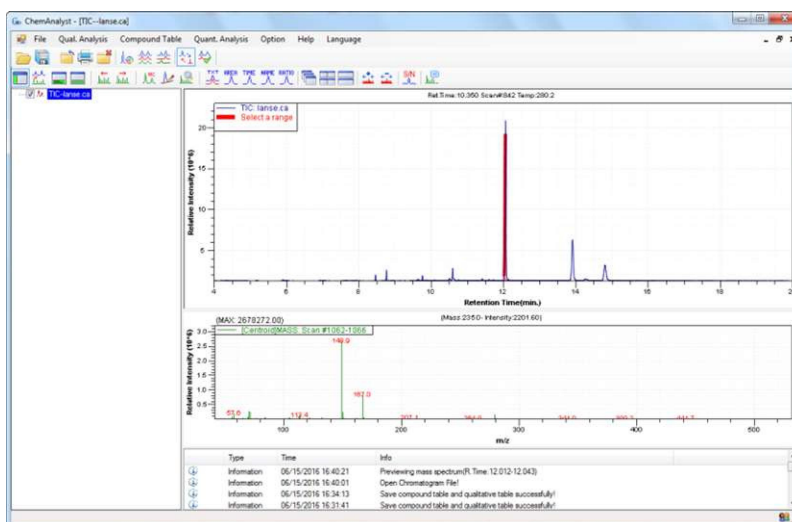

Figure7-21 Preview of Mass Spectrum
- (1)  Comparison of mass chromatograms: if the button is selected, the newly opened mass chromatogram will be added to current TIC diagram directly. If the button is not selected, the newly opened mass chromatogram will be shown separately in a new window.
- (2)  Spectrum list: show or hide the content of spectra list.
- (3)  Centroidal: if selected, all the mass spectrogram will be automatically centered.
- (4)  MC Summary: if there are several MC curves open on the TIC diagrams, with this button, all peaks including characteristic ion on TIC will be found.
- (5)  Hide (or show) preview: Click the button to hide or show MS preview window. If the window is displayed, the mass spectrum will be displayed on the preview area after clicking TIC or MC; otherwise, the mass spectrum will be displayed in a new window, as shown in Figure 7-21.